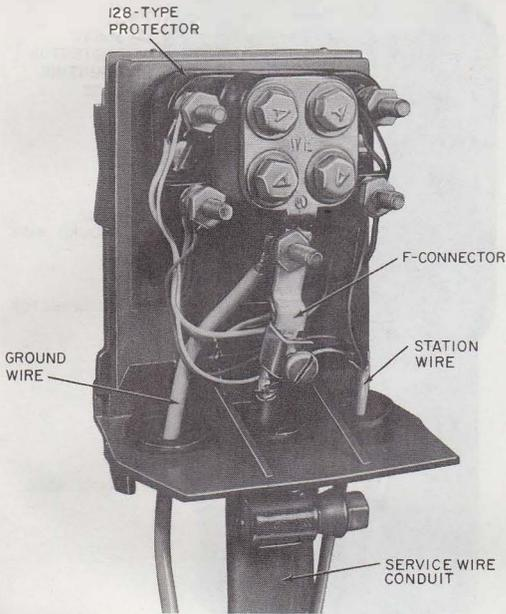

Fig. 26—Typical Protector Installation Using B Customer Service Closure
3.32 ♦The B customer service closure consists of a plastic base, a removable plastic cover, two cable ties for locking the cover, and two screws for attaching a single 123- or 128-type protector to the base. The B closure can be mounted on any suitable flat surface, on a PMP, or on a vertical or horizontal pipe. An adapter on the bottom of the base allows it to be attached to service wire conduit. Fig. 26 shows a typical installation.